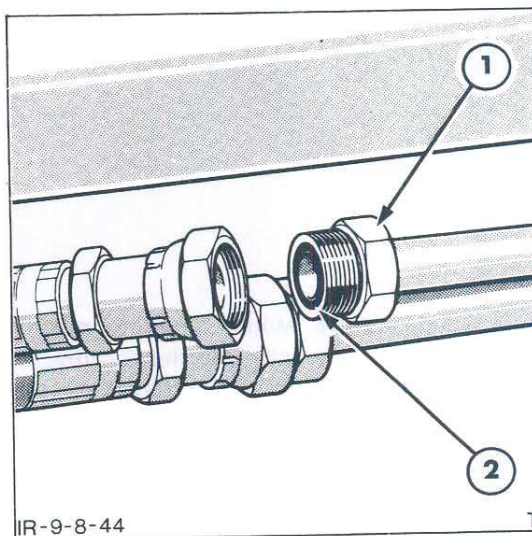

Figure 24
2. Dip a new 'O' ring seal into clean hydraulic oil prior to installation. Install the new 'O' ring into the fitting and if necessary retain in position using petroleum jelly, Figure 24.